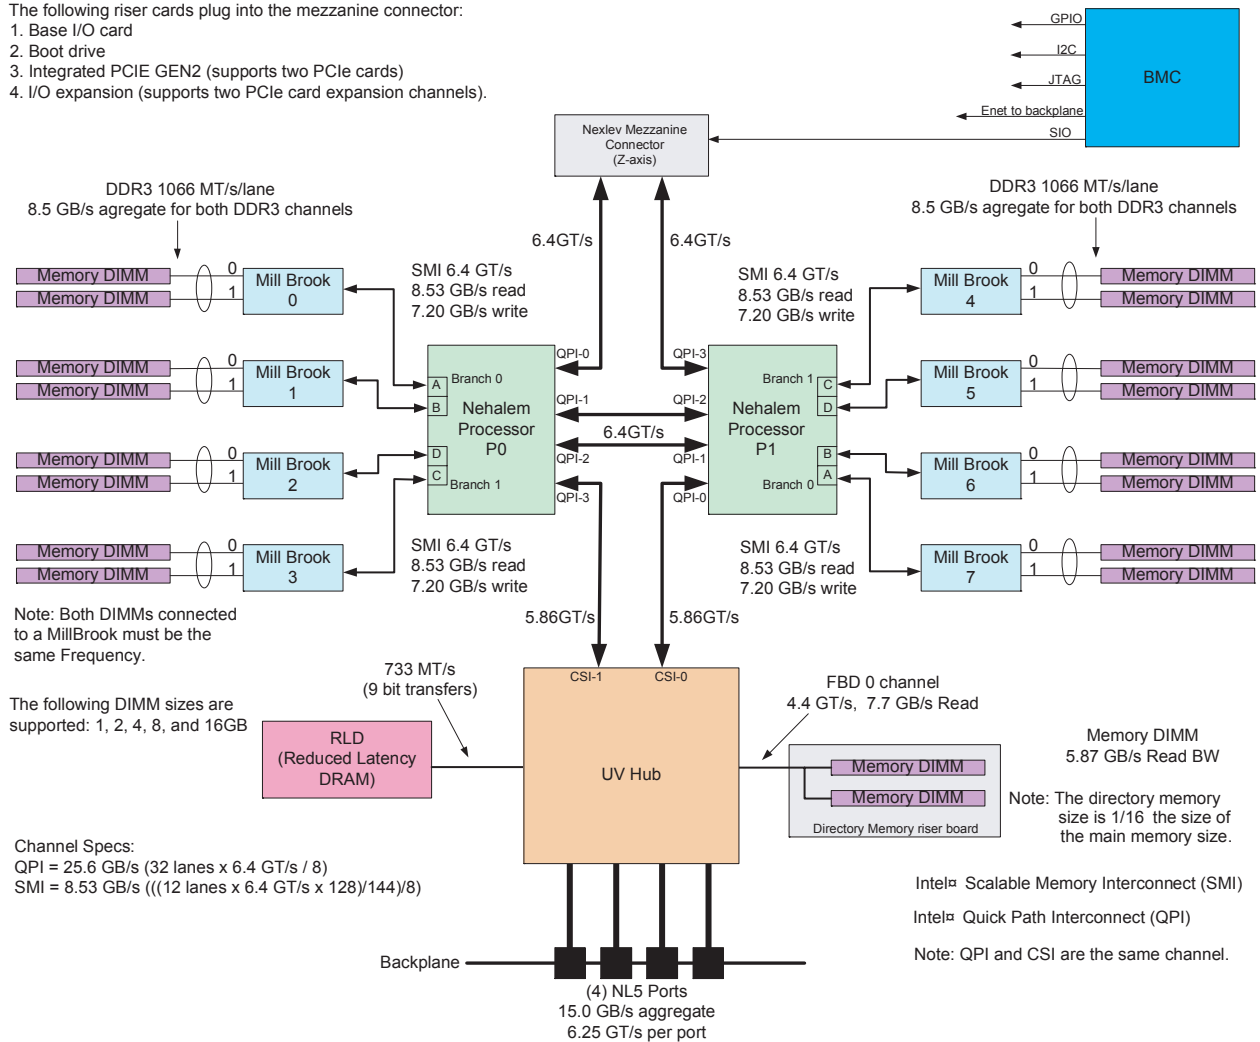

Figure 3-4 Blade Node Block Diagram
- If a processor accesses memory that it is connected to on a compute node blade, the memory is referred to as the node’s *local memory*. Figure 3-4 on page 42 shows a conceptual block diagram of the blade’s memory, compute and I/O pathways.